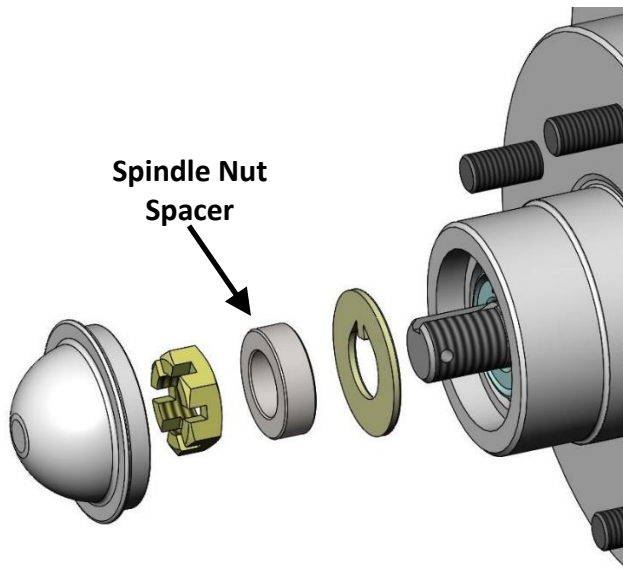
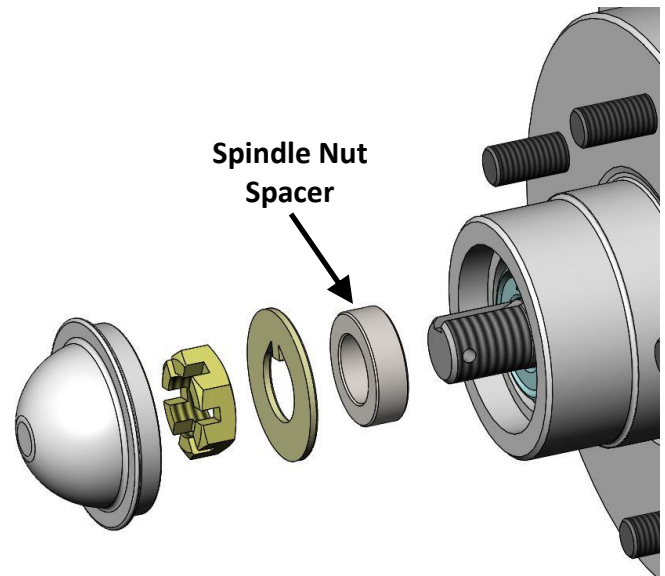

Figure 6 – Castle Nut Spacer w/ Long Machined Keyway
Figure 7 – Castle Nut Spacer w/ Short Machined Keyway
10. With the rotor fully pushed onto the spindle, install the outer wheel bearing followed by the keyed washer and re-use the original spindle nut. Due to the use of tapered roller bearings instead of the OEM straight roller bearings a Castle Nut Spacer must be used to align the cotter pin hole in the spindle to the castle nut. We have also seen inconsistencies with how far the key way is machined into the spindle. If your spindle has a long machined key way in the spindle allowing the Spindle Washer to set flat against the bearing, refer to Figure 6 below for the proper sequence of installing the Castle Nut Spacer. If your keyway is machined so short that it will not allow the Spindle Washer to set flat against bearing refer to Figure 7 below.